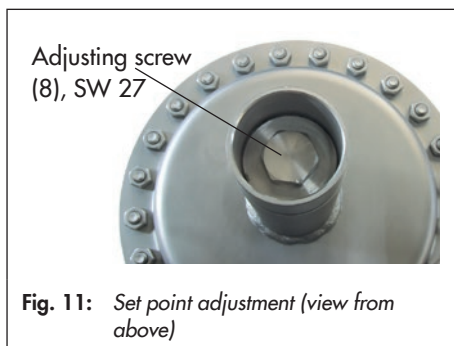

Fig. 11: Set point adjustment (view from above)
Adjust the required set point (see Fig. 11) by tensioning the set point springs (7) at the set point adjuster (8) using a suitable socket wrench (width across flats 27).
1. Remove the cap (12).
2. Use a socket wrench (SW 27) to turn the screw (8).